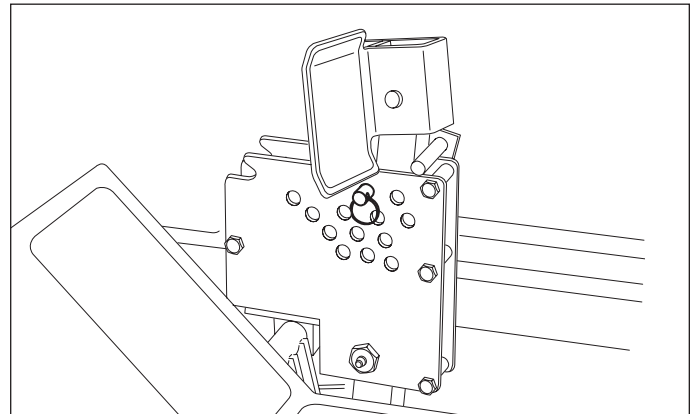

Figure 36. Deck Lift Pedal & Pin Position
6. To ensure that the deck is in the lowest position, push the pedal by hand towards the rear of the unit. Install the cutting height adjustment pin in front of the deck lift pedal arm to prevent the pedal from moving forward. See Figure 36.